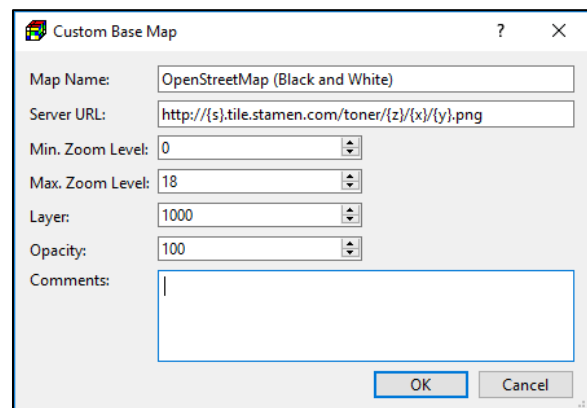

Figure 8. The Custom Base Map dialog box
- 2. Add:** Click this button to open the Custom Base Map dialog box (Figure 8) that allows you to add a tiled-map service.